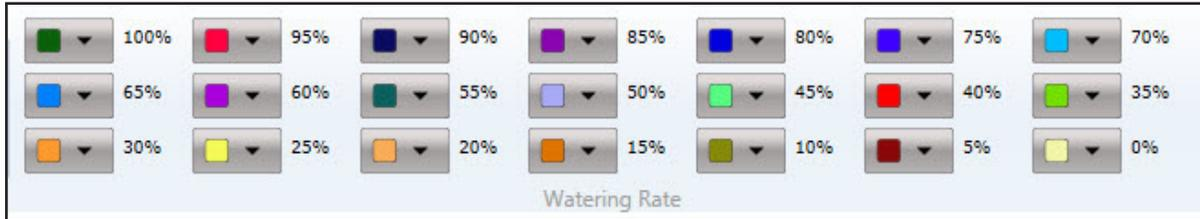

Figure 18-1 1. Watering Rates
The Watering Rate buttons are used with any of the Drawing Tools buttons to describe the amount of water to be applied to sectors and zones. The color-coded buttons range in 5 percent increments from 0 to 100 percent. (Refer to Figure 18-1.)
The example in Figure 18-1 displays the effect of using each of the drawing tools. Note that when you apply the Sector Zone tool (2) after first applying the Circular Zone tool (1), the Sector Zone overrides the Circular Zone. Likewise, applying the Circular Zone tool (3) after the Sector Zone tool (2) will cause another override.